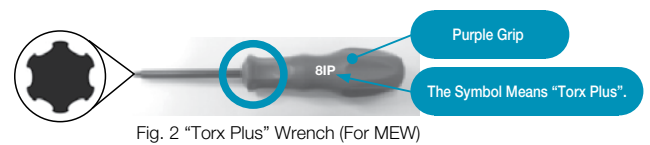

Fig. 2 "Torx Plus" Wrench (For MEW)
- 1) Ref. to Fig. 2 for "Torx Plus" Wrench. (Purple grip)